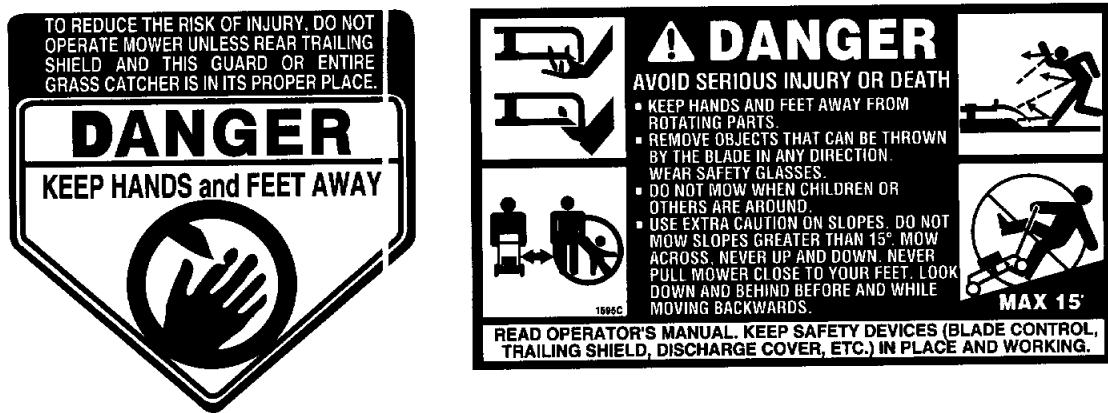

Figure 1 Safety Labels Found On Lawn Mower
**WARNING:** Keep hands and feet away from the chute area on cutting deck. See Figure 1. The operation of any lawn mower can result in foreign objects being thrown into the eyes, which can result in severe eye damage. Always wear safety glasses or eye shields.